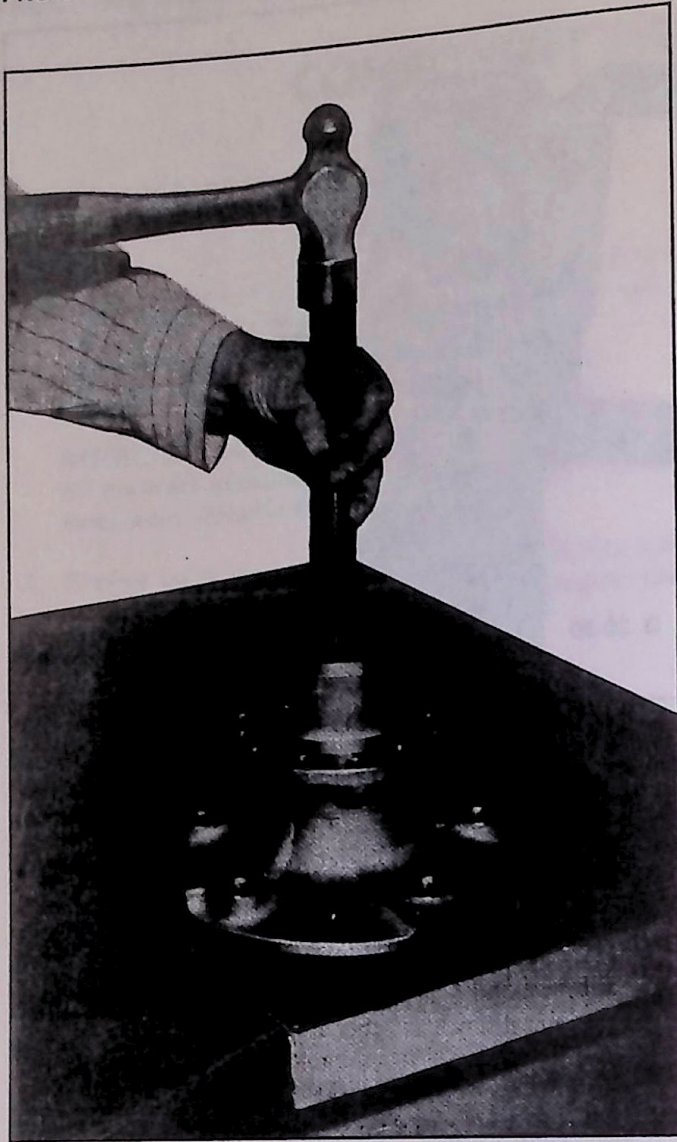

Fig. 8—Installing Bearing Cup (Typical)
3. Install inner and outer cups using driver handle J-7079-2 or J-8092 (fig. 8) and suitable cup installers for different vehicle series as listed in Special Tools illustration, Figure 19.